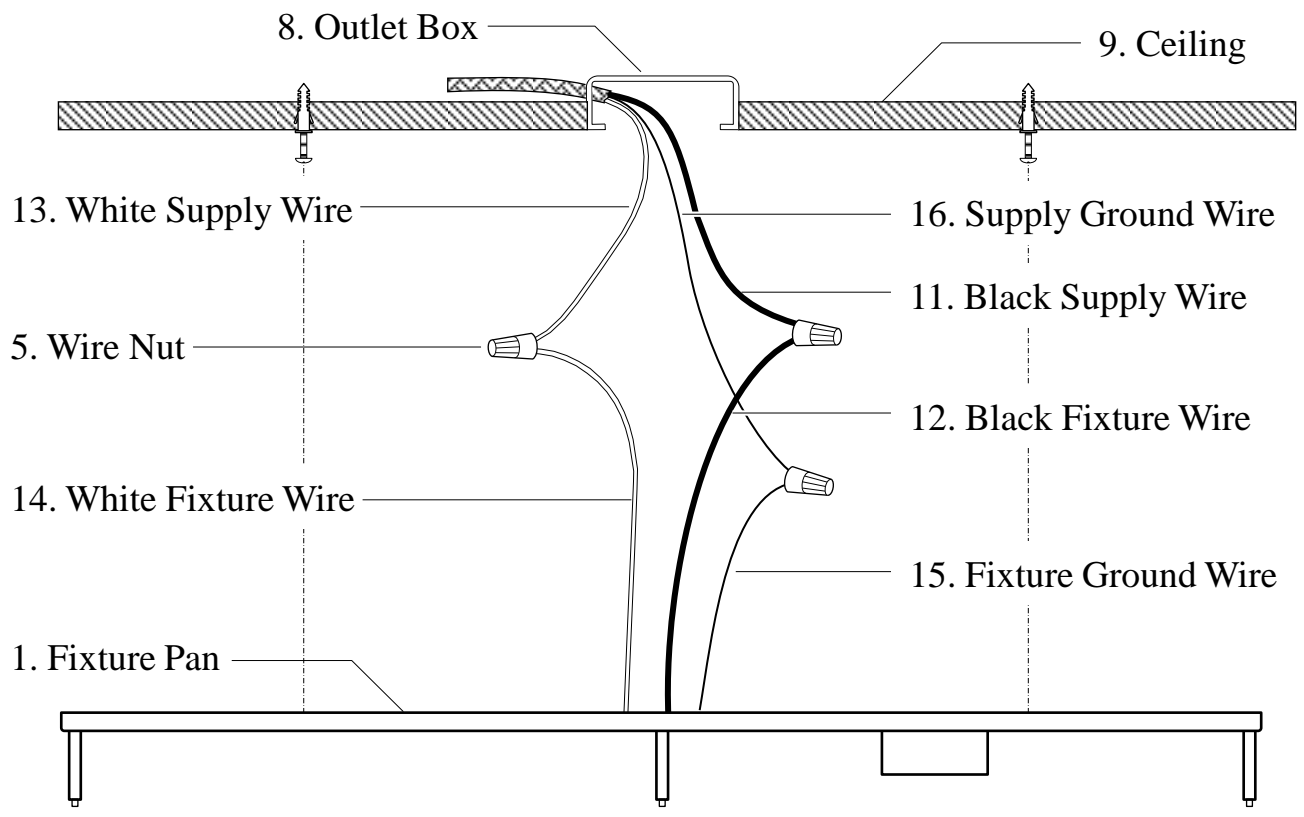

Fig. 2
5. Pull the power supply wires out from the Outlet Box (#8). Attach the Black Supply Wire (#11) to the Black Fixture Wire (#12) and the White Supply Wire (#13) to the White Fixture Wire (#14) using Wire Nuts (#5). Connect the Fixture Ground Wire (#15) and the Supply Ground Wire (#16) together using a Wire Nut (#5). (**Fig. 2**) Wrap all wire connections with electrical tape for a more secure connection. *Note: If you have electrical questions, consult your local electrical code for approved grounding methods.*